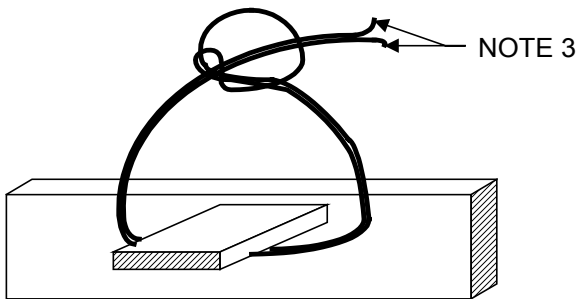

FIGURE 14c
3. PLACE FREE ENDS THROUGH LOOP (FIGURE 14c).